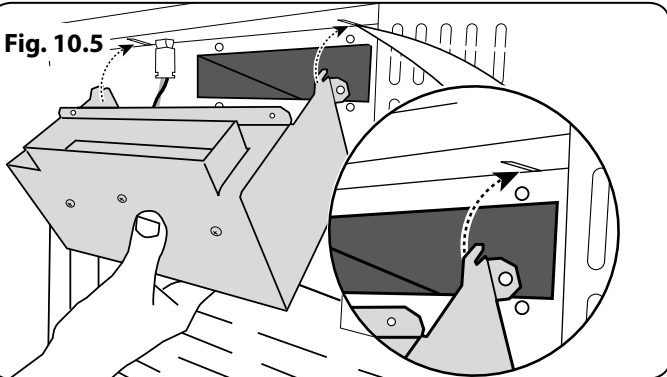

Fig. 10.6
4. Replace the six screws **Fig. 10.6**.